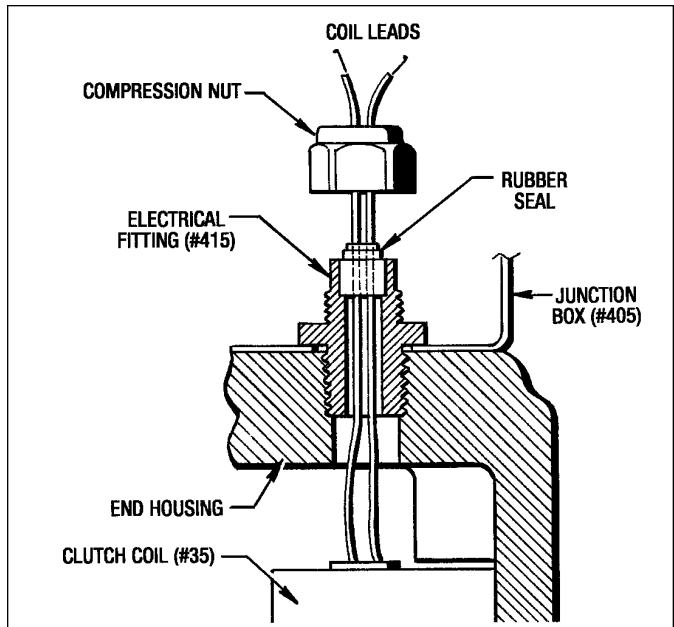

Figure 7.3 - Installing Coil Wires
**NOTE:** The (2) coil leads are fairly difficult to pull out of the Electrical Fitting (#415) because of the rubber seal, so pry the rubber seal out of the fitting and pull it off of the coil leads and save for reassembly. (See Figure 7.3)
- Place the rubber seal on the coil leads and pull the wires through, taking up all the slack in the wires. Seat the rubber seal into the threaded part of the Electrical Fitting (#415). Tighten down the compression nut. (See Figure 7.3)
The (2) coil leads are fairly difficult to pull out of the Electrical Fitting (#415) because of the rubber seal, so pry the rubber seal out of the fitting and pull it off of the coil leads and save for reassembly. (See Figure 7.3)